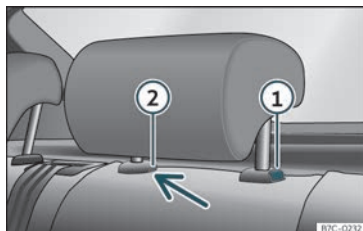

Fig. 103 Rear headrest: removal.
- Press button»» Fig. 103 ①, while simultaneously pressing on the security hole ② with a flat screwdriver a maximum of 5 mm wide, and remove the headrest.